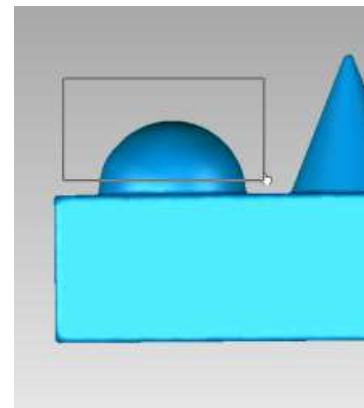

Figure 57
- **Drag** the rectangle to select the area shown in **Figure 57**.